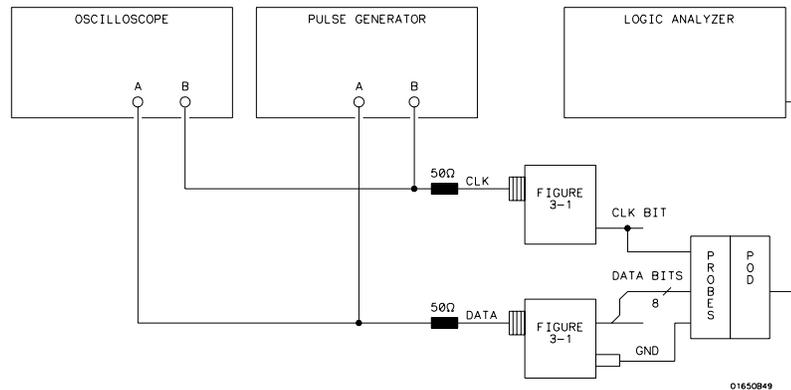

Figure 3-15. Setup for Data Test 3
1. Connect the HP 1650B and test equipment as in figure 3-15.